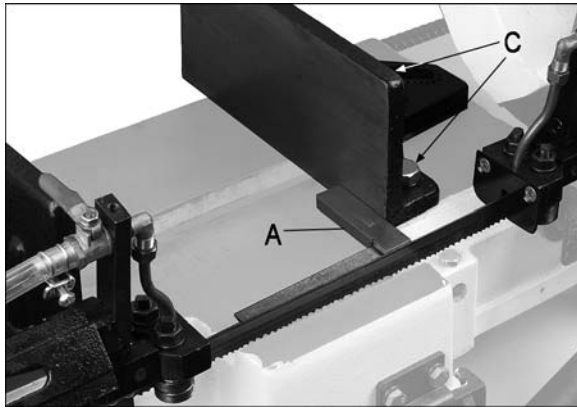

Figure 14
- Place a machinist's square (A, Figure 14) on the bed against the blade and the fixed vise jaw. The square should lie along entire length of jaw and blade without a gap.
- If adjustment is necessary, loosen screws holding vise (C, Figure 14) and shift vise until it aligns with square.